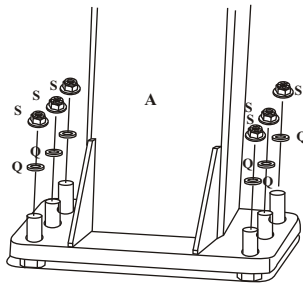

FIGURE 1B
- B. Place the Main Post(A) over the J-Bolts. Slide a 18mm Thick Washer(Q) and thread a 18mm Hex Nut(S) to each J-bolt. Tighten the Nuts only a few turns onto the J-Bolts as shown in FIGURE 1B.
- C. If the Main Post (A) is not exactly vertical, adjust the 18mm J-Bolt Hex Nuts(R) located under the Post base. Tighten all of the Flange Nuts(S) when Main Post(A) is vertical.